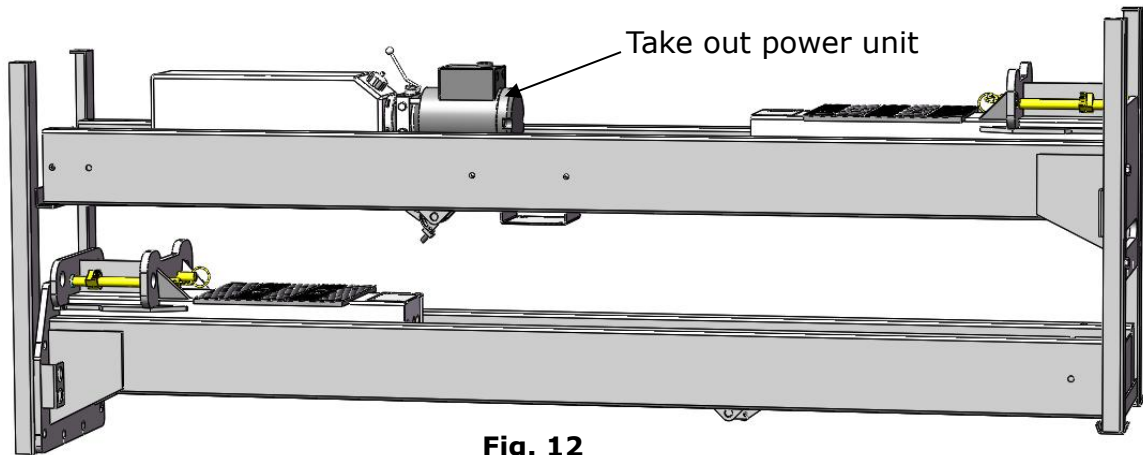

Fig. 12
3. Take out 2pcs outer column, then move them aside to the installation position. (See Fig. 12)